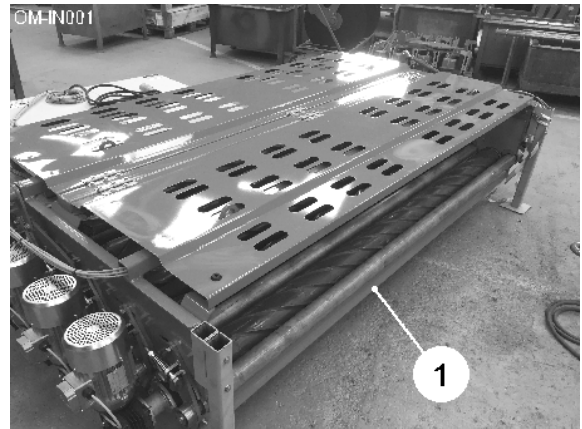

Fig 4
Each clod roller is fitted with a scraper (item 1, fig. 4) which needs to be closely adjusted to remove loose soil from the roller.